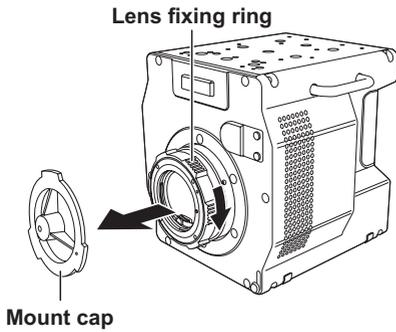

Fig. 1
- 1 Turn the lens fixing ring and remove the mount cap. (Fig.1)